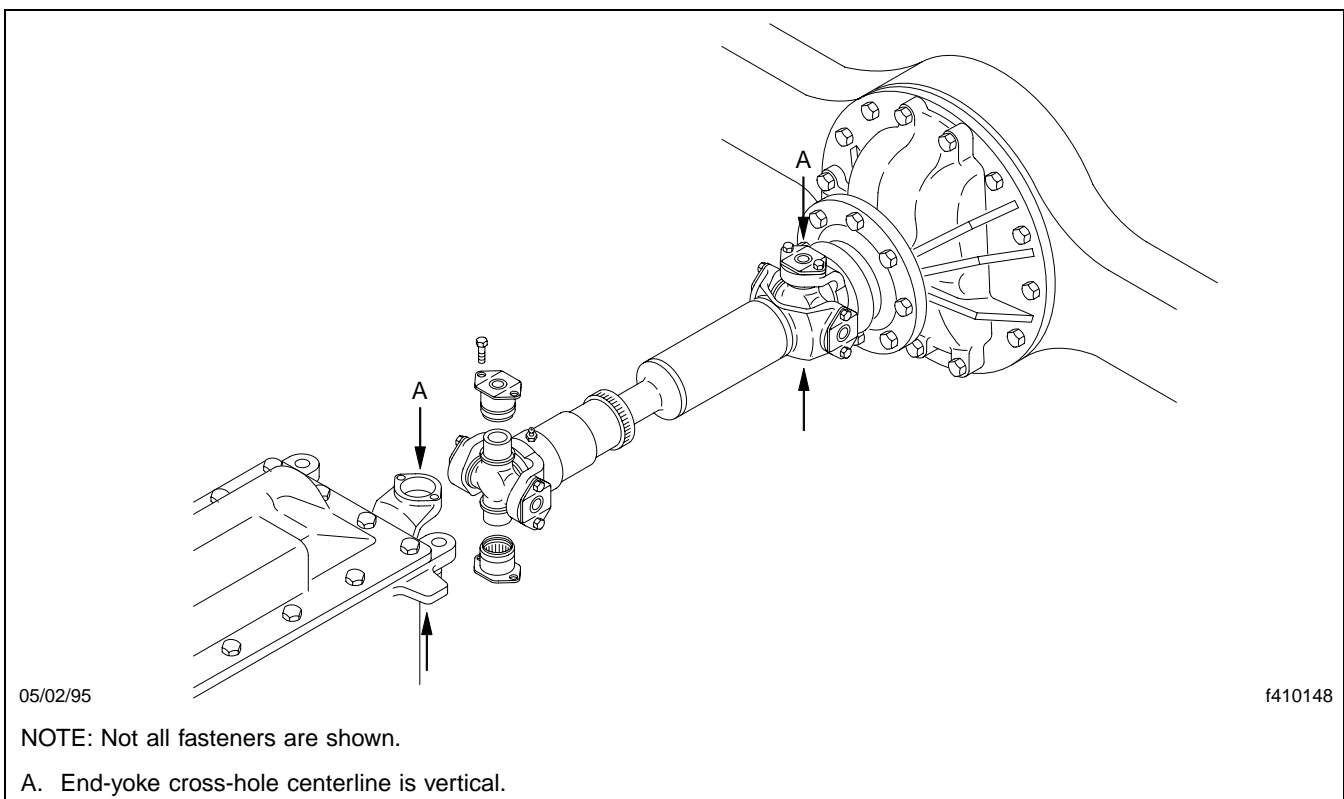

Fig. 2, U-Joint Uncoupling/Coupling of a Driveline With Full-Round End-Yokes
Refer to **Fig. 2** for U-Joint uncoupling procedure.
4. Remove the fasteners that attach the midship bearing(s) to its bracket(s). See **Fig. 2**.
14. Turn the end-yoke until the centerline through its cross-holes is vertical. See **Fig. 2**.